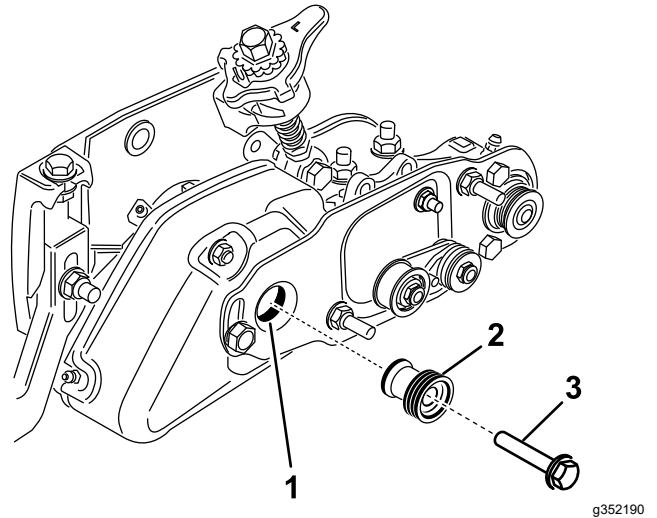

Figure 31
20. Remove the bolt securing the groomer pulley to the drive shaft (Figure 31).
21. Insert the brush drive pulley into the groomer drive pulley and onto the drive shaft (Figure 31). Make sure that the pulley tabs are positioned in the slot in the drive shaft.
22. Secure the drive pulley to the shaft with a flange head bolt (3/8 x 2 inch) (Figure 31). **Torque the bolt to 47 to 54 N-m (35 to 40 ft-lb).**